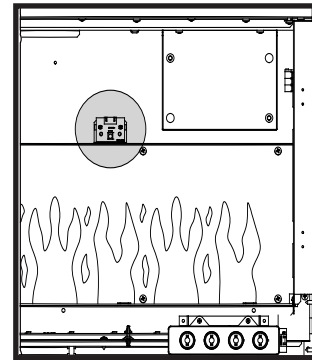

Figure 13. Receiver Board Location
6. Locate the Receiver Board in the upper right side of appliance. See Figure 13.